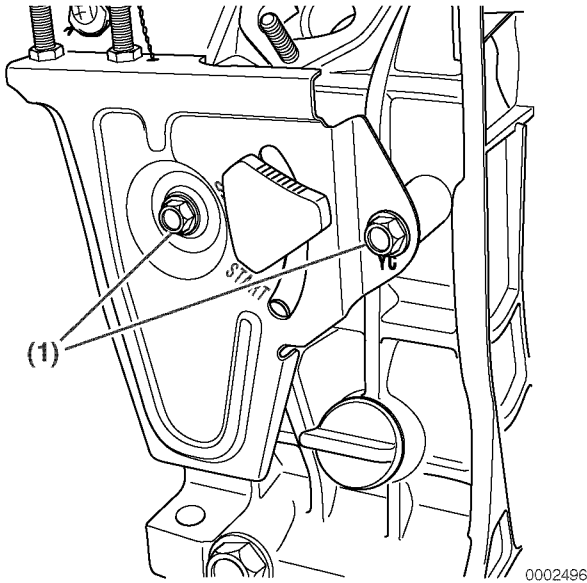

Figure 6-78
1. Remove the bolts (**Figure 6-78, (1)**) that retain the speed control assembly.